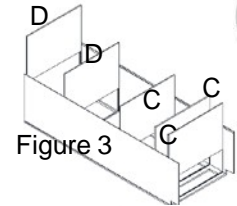

Figure 3
3. Installing the top & bottom panel (Figure 3): Gently spread the side panels and insert the bottom & top into the grooves of side panel (B) until it touches the face frame (A). Align it and lock each cam.